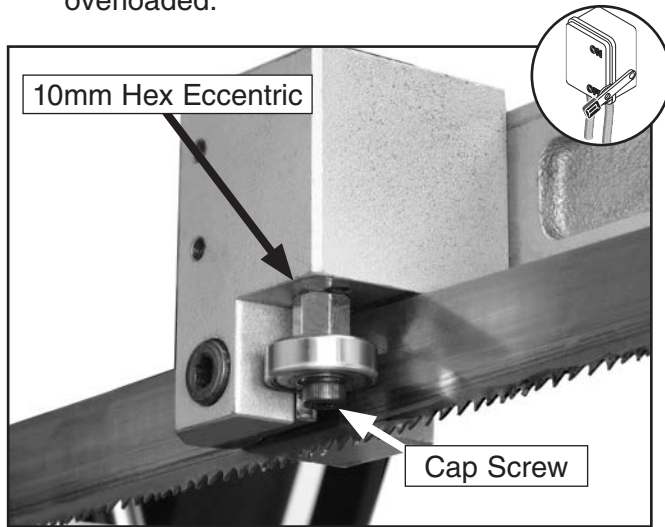

Figure 46. Upper blade guide adjustments.
7. Loosen the cap screw, rotate the 10mm hex eccentric (**Figure 46**), and adjust the bearing against the side of the blade so there is no clearance, but the bearing is not overloaded.